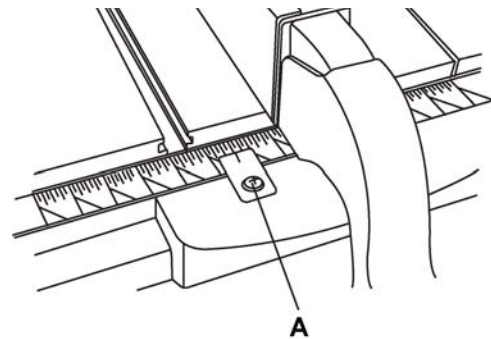

Figure 26
2. Loosen the *indicator screw* (A, Fig. 26).